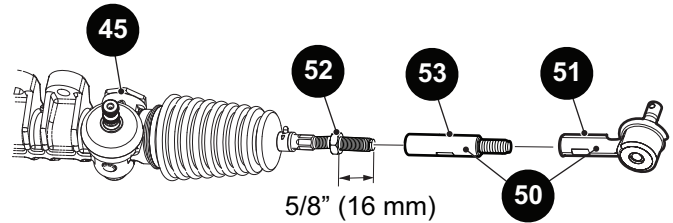

Fig. 13 Tie Rod Installation
When replacing the tie rod (50), the steering rack (45) must be removed from the steering assembly to adjust the rack/ball joint length correctly. (Ref. Fig. 13)
3. Loosen the jam nut (52).
4. Remove the tie rod assembly (50) from the steering rack (45).
2. Apply thread locking primer and red thread locking adhesive to the rack ball end, before attaching to the steering rack (45).
3. Install an inner tie rod end (53) on each outer tie rod end (51).
4. Set the jam nuts (52) 5/8" (16 mm) distance onto the threaded portion of the steering rack (45).
5. Install the tie rod assemblies (50) onto the threaded portion of the steering rack (45) until they reach the jam nuts (52).
6. The tie rod orientation must be as shown (Ref. Fig. 13).
7. To adjust the wheel alignment, loosen the tie rod jam nut (52), while holding the hex form on the outer tie rod end (51) (Ref. Fig. 13).